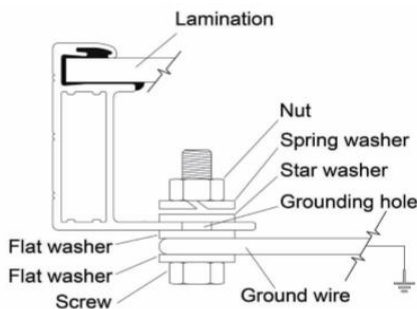

figure 1
- Use M8 bolt and washers to bond the ground wire and aluminum frame through the grounding holes (as shown figure 1). The tightening torque is 3-7N.m. All nuts and washers should be made of stainless steel.